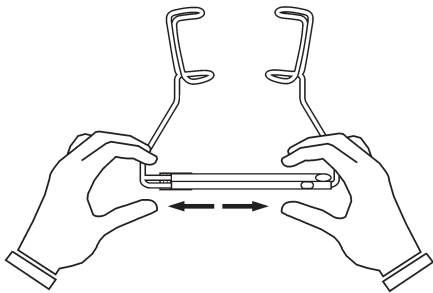
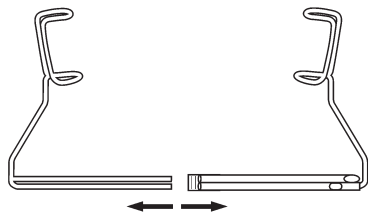

Fig. 2
Fig. 3
- Hold the eye speculum as shown in fig. 2.
- Pull the two parts of the speculum apart (fig. 3).
- Disassemble the Eye Speculum as shown in fig. 2 and fig. 3.
- Assemble the Eye Speculum according to figs. 2 and 3 in reverse order.